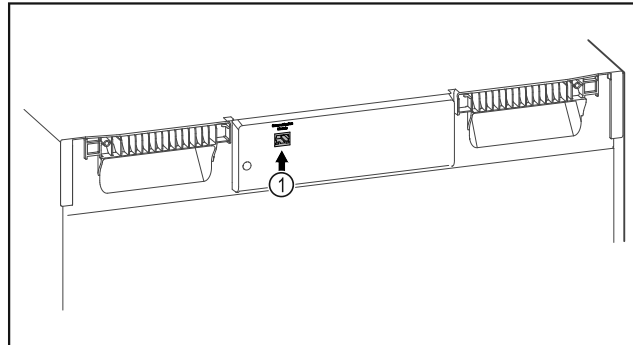

Fig. 121
- SmartModule Fig. 121 (1) is in use.